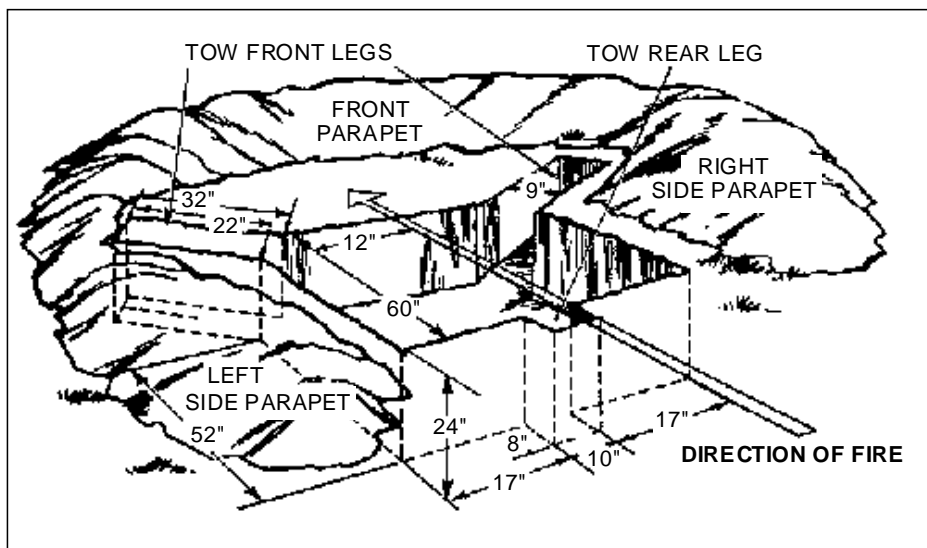

Figure 1. Dig a position.
- a. Clear fields of fire and dig the weapon's position first. As time allows, add overhead protection for the crew and missiles. To ensure an adequate line-of-sight, allow at least 30 inches of clearance between the gunner's line of sight to a target and any obstructions located between 500 and 900 meters from the firing position. Dig the position 24 inches deep, then scoop out a place for the missile guidance set (MGS), either to the front or under the tripod (Figure 1).